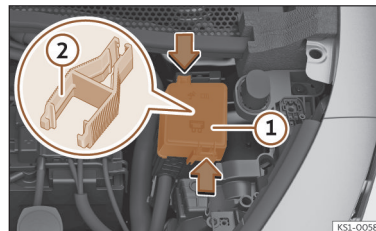

Fig. 190 In the front compartment: fuse box cover.
- Press the locking tabs to unlock the fuse box cover >>> **Fig. 190 ①**.
In the fuse box there may be plastic tweezers for removing fuses >>> **Fig. 190 ②**.